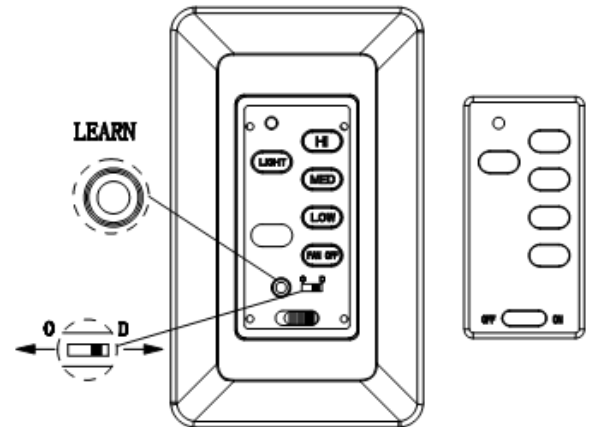

FIG. 4
1. After installation is complete, AC power is turned on and  SWITCH is at ON position within 30 seconds, press and hold the **LEARN** button for 3 seconds. Fan will turn on at medium speed and light (if installed) will turn on. This confirms that the SMART SYNC setting is active and ok. (FIG. 4)
1. If the ceiling fan has fluorescent lighting, please slide the “light function select switch” to “O” position. If the ceiling fan has incandescent or halogen lighting, please slide the “light function select switch” to “D” position. (FIG. 4)